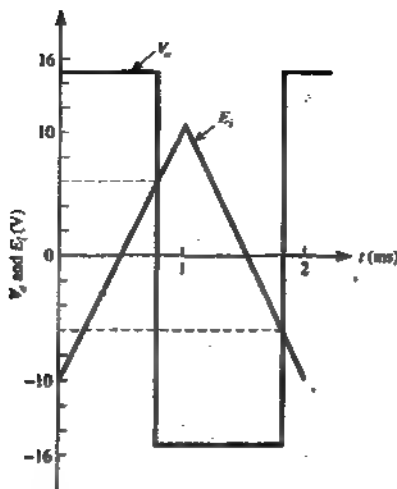

FIGURE P4-5
- 4-5. Given the waveshapes of E_i vs. t and V_o vs. t in Fig. P4-5, identify (a) the frequency of E_i ; (b) the peak amplitude of E_i ; (c) the value of V_{UT} ; (d) the value of V_{LT} ; (e) V_H .